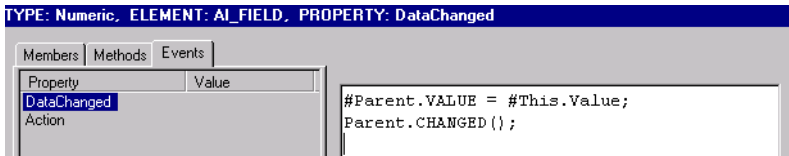

Figure 151. DataChanged Script
- b. Select the DataChanged property, and enter the following script, Figure 151: